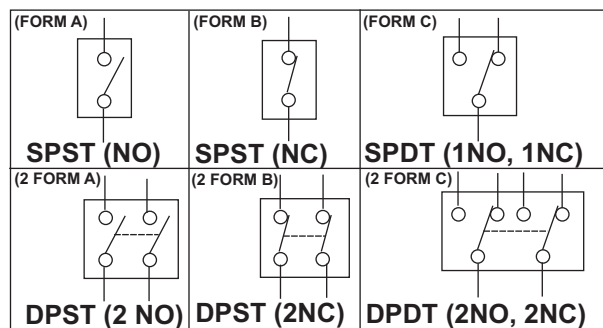
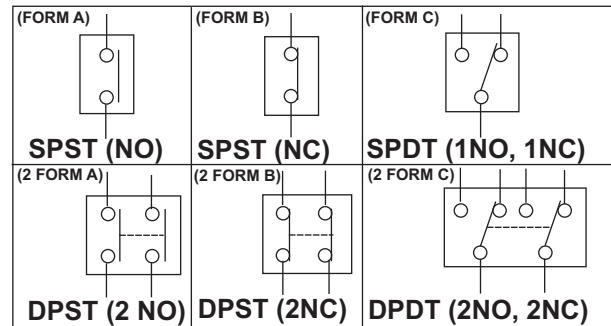
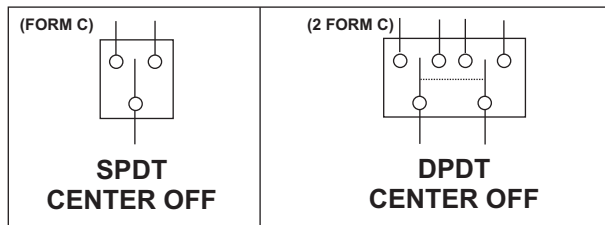

FIGURE 1A
FIGURE 1B
FIGURE 2
The most basic type of switch found in a Triumph is a simple on-off switch, such as the switch that operates the brake lights. This type of switch is illustrated in the upper left of **figure 1A**, below.
The switches shown in **figure 1A** can be either “maintained” or “momentary” switches. A maintained switch stays in the last position it was placed in, whereas a momentary switch will return to its “shelf” position as soon as the operator releases it. Generally, maintained switches are depicted as shown in **figure 1A**, while momentary switches are usually depicted as shown in **figure 1B** below. Note that the symbols for the SPDT and the DPDT switches are the same for either maintained or momentary types. For these switches, you will have to read the description to determine the operation for a given switch.
A SPST, normally closed switch is depicted in the upper middle of **figures 1A** and **1B**. In most engineering departments, these switches are not usually referred to as SPST; rather they are described as “form a” or form b,” as shown. The term “form a” simply means a SPST, (NO) switch, and “form b” means a SPST (NC) switch. This
In the upper right of **figures 1A** and **1B** is a SPDT (single pole, double throw) switch, with one NC and one NO contact, also referred to as a “form c” switch. This type of switch is typically used as a “selector” switch - operating, for example, the high beams in one position, and the low beams in the other. Just to confuse matters even further, this switch is available in two configurations. In one configuration, the switch has three positions, with the center position being off, and in the other configuration, the switch has only two positions. Two types of “center-off” switches are depicted in **figure 2**, below, and are shown in the “off” position.
At the bottom of **figures 1A** and **1B** are three other examples of switches, and the diagrams should be self explanatory. The dashed line indicates that the two poles of each switch are operated simultaneously, with only one handle or knob.
There are a couple of items worth noting with this particular DPST relay. First of all, notice that, unlike the DPST switch shown in **figures 1A** and **1B**, the two poles are not isolated from one another. One side of each pole is connected to the other pole, making this switch a three terminal device. In other words, this relay has one input and two outputs. When the relay is operated, power from the input terminal is fed to both output terminals. Secondly, notice the absence of a contact pad on the C1 bracket! This relay, removed from a '75 TR6, is very definitely bad.